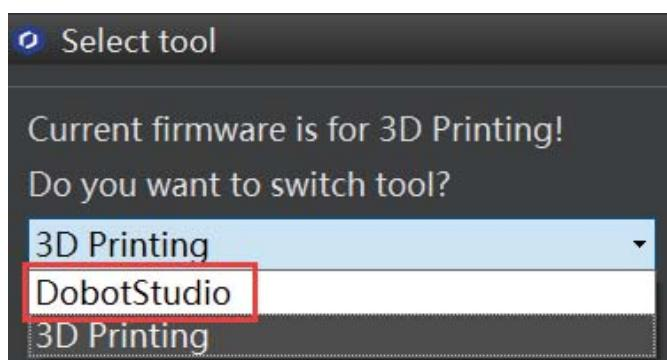

Figure 5.86 Select the DobotStudio to upgrade the Dobot firmware
1. Select **DobotStudio** to upgrade the Dobot firmware, as shown in Figure 5.86.